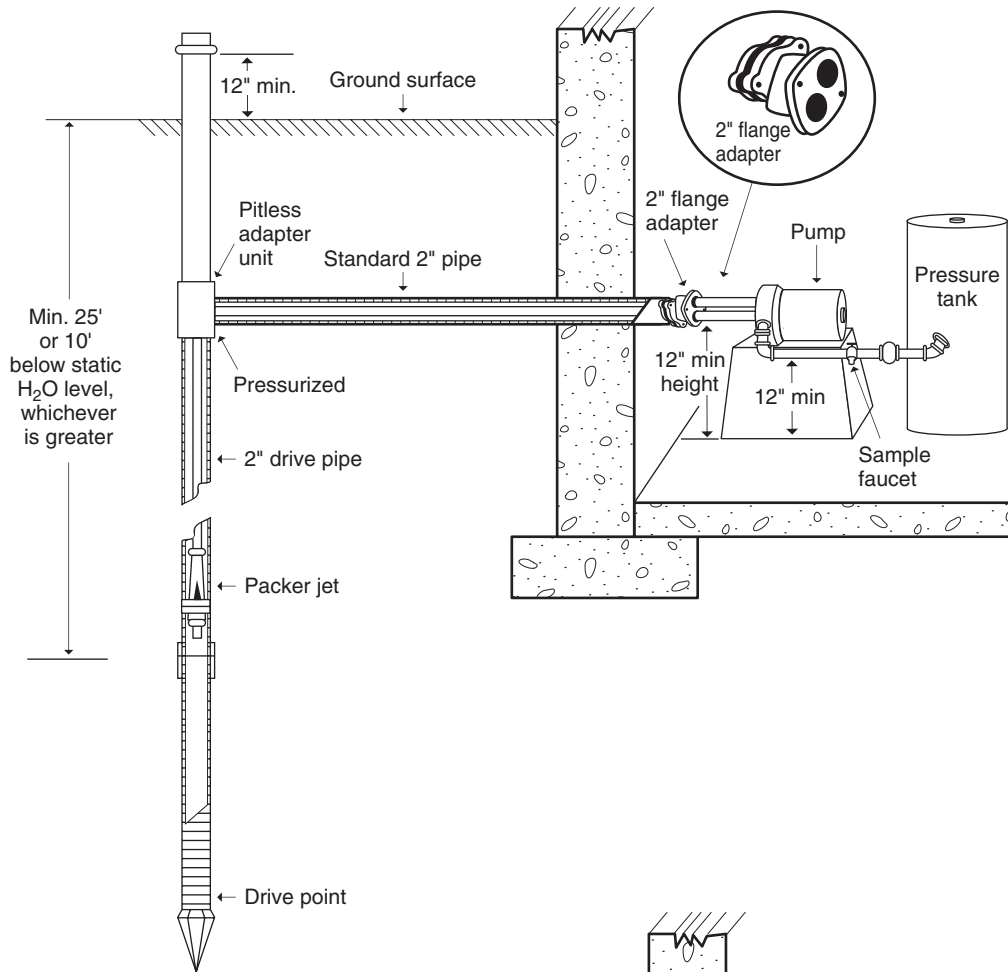

**Figure 2.**
- ▼ **Minimum Diameter:** There is no minimum diameter for driven point wells installed with a **shallow** well pump. Atmospheric pressure of about 14.7 pounds per square inch allows a **shallow-well** pump to **pull** water up from a maximum depth of only about 20 feet (Figure 2). However, if you know the pumping water level will be deeper than about 20 feet, then you must use drive pipe having a minimum diameter of at least 2 inches. This is necessary because the drive pipe must be large enough to accommodate a **packer-jet assembly** to be installed within the pipe to enable the pump to **pull** water up from a greater depth. (See Figure 3). Remember, you are **not** allowed to construct a pit to get the pump closer to the water table to enable you to use a shallow-well pump.
- ▼ The annular space between the concentric piping must be pressurized under water pressure by installing a **seal-cross fitting** or a **flange adapter**. (Figure 2).
- ➔ Offset connection using horizontal pressurized concentric piping if the well is installed outside with the pump **offset** in the basement (Figures 2 and 3).
- ➔ Shallow-well jet suction pump for water levels less than about 20 feet deep. (Figure 2).